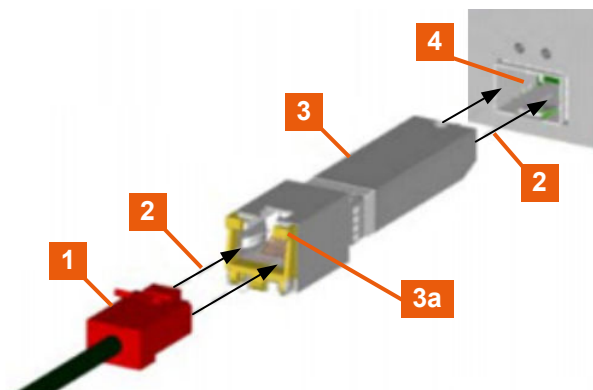

Figure 4-2: Connecting to the IP Data interface
2. Connect the SFP+ to RJ-45 adapter to the SFP+ socket of the "IP Data" connector first (Figure 4-2).